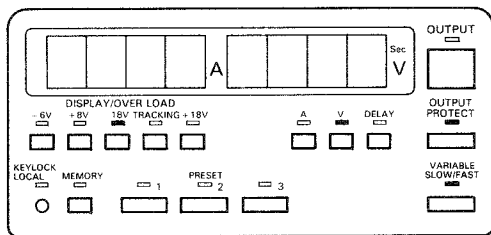

Fig. 9
- 1) Set the LEDs as shown in the Figure 9. (Make sure that the OUTPUT LED is not lit.)
- 3) Press the A KEY ⑥ and make sure that the A LED lights up.
- 5) Press the OUTPUT KEY ⑰ to obtain the output value entered from the negative (+) output terminal.